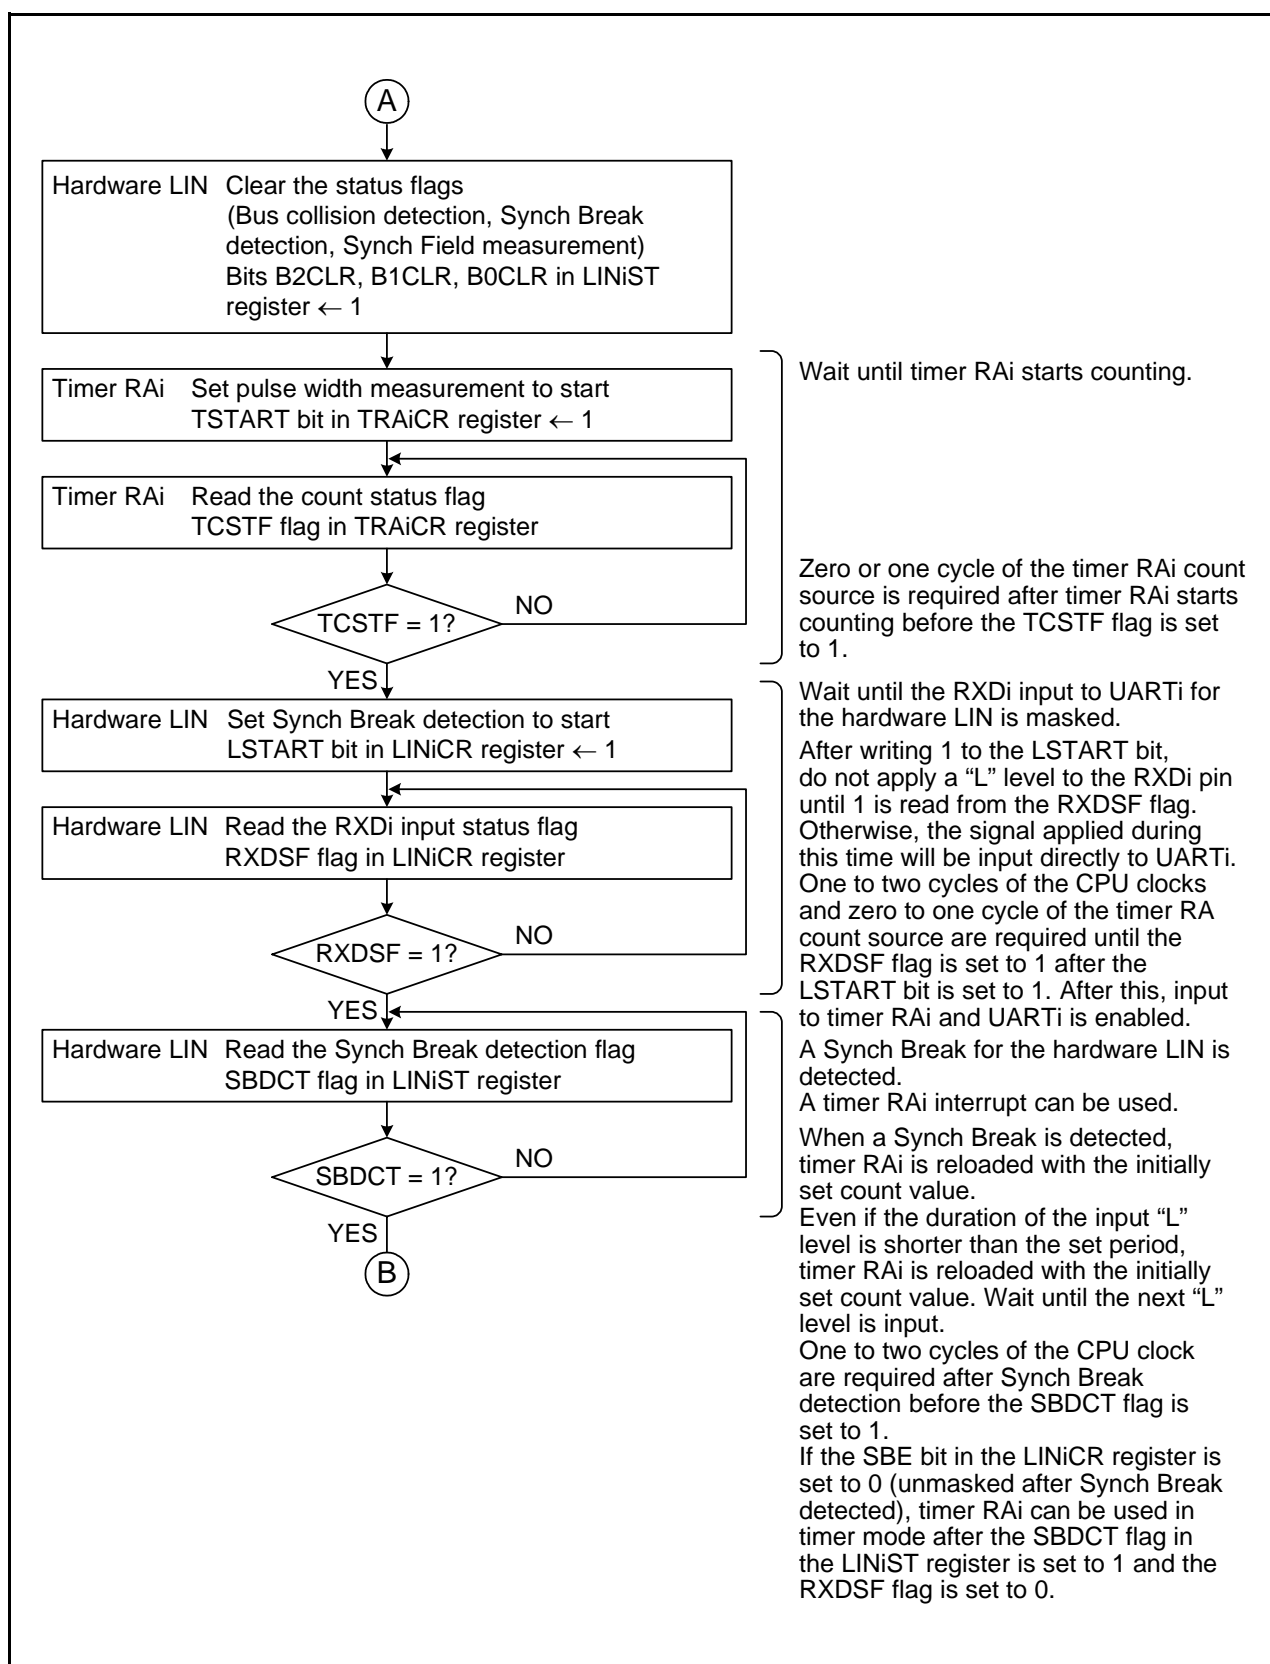

Figure 27.7 Header Field Reception Flowchart Example (2)
3. Inputs to timer RAi and UARTi are disabled immediately after the LINE bit is set to 1 (LIN operation starts). (Refer to **Figure 27.3 Header Field Transmission Flowchart Example (1)** and **Figure 27.7 Header Field Reception Flowchart Example (2)**.)